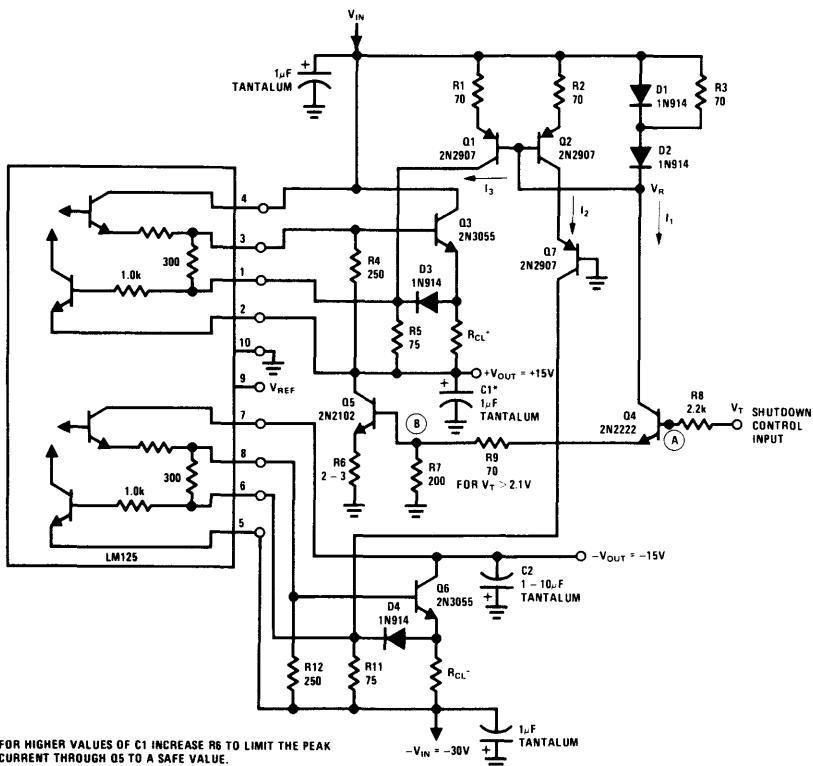
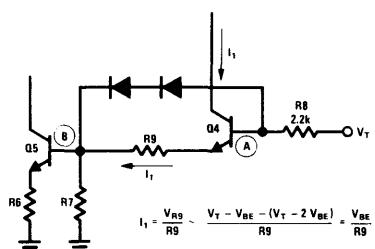

FIGURE 7.33. Electronic Shutdown for the Boosted Regulator
FIGURE 7.34.
The circuit in Figure 7.33 provides complete electronic shutdown of both regulators. The shutdown control signal is TTL compatible but by adjusting R8 and R9 the regulator may be shutdown at any desired level above $2 V_{BE}$, calculated as follows:
Capacitor C_2 discharges through the load. Q_7 shares the total supply voltage with Q_2 , thus limiting power dissipation of Q_2 . Another power dissipation problem may occur when the design is done for $V_T = 2.0V$ for example, and V_T is increased above the preset threshold value. I_1 is increased and Q_4 has to dissipate $(V_{IN} - 3 V_{BE} - V_T) I_1$ (W). The simplest solution is to increase R_8 . If this is insufficient, a set of diodes may be added between nodes A and B to clamp I_1 to a reasonable value. This is illustrated in Figure 7.34.
Figure 7.34 the diode D1 in Figure 7.33 may be omitted. The shutdown characteristics of Figure 7.33 are shown in Figure 7.34.